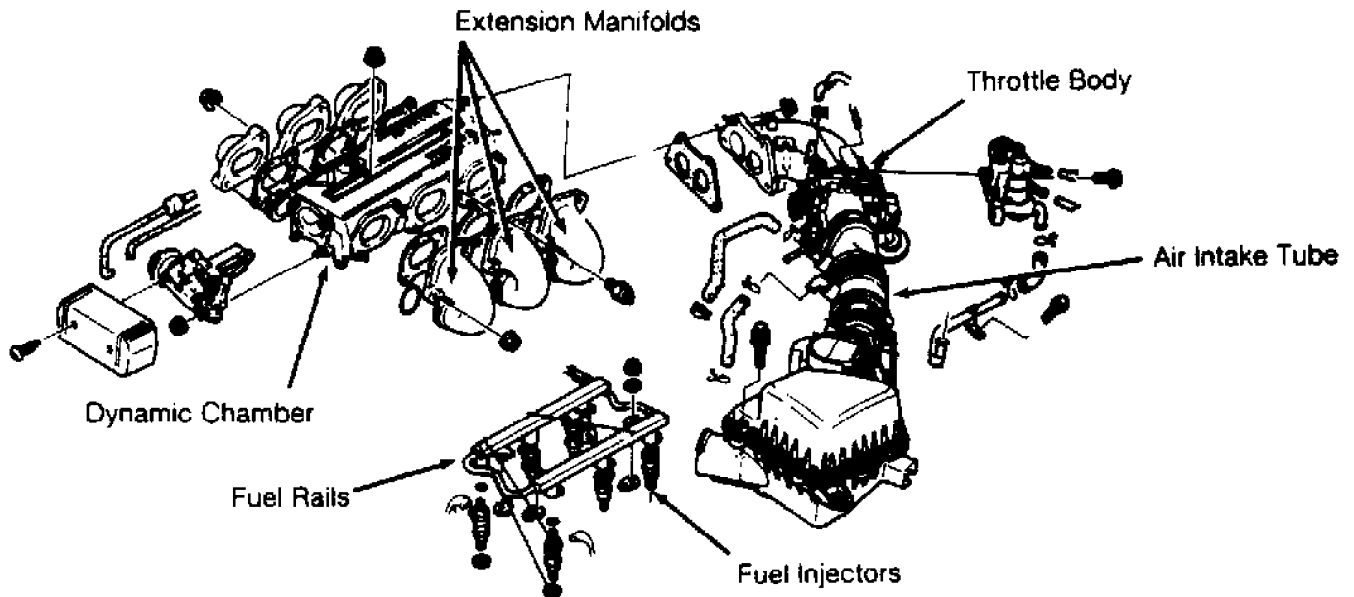

Fig. 26: View of Upper Intake Manifold Components & Fuel Rail (MPV 3.0L Shown; 929 SOHC Similar)
1) Release fuel system pressure. See FUEL SYSTEM PRESSURE RELEASE. Remove air intake tube. See Fig. 26. Remove throttle body. See THROTTLE BODY.